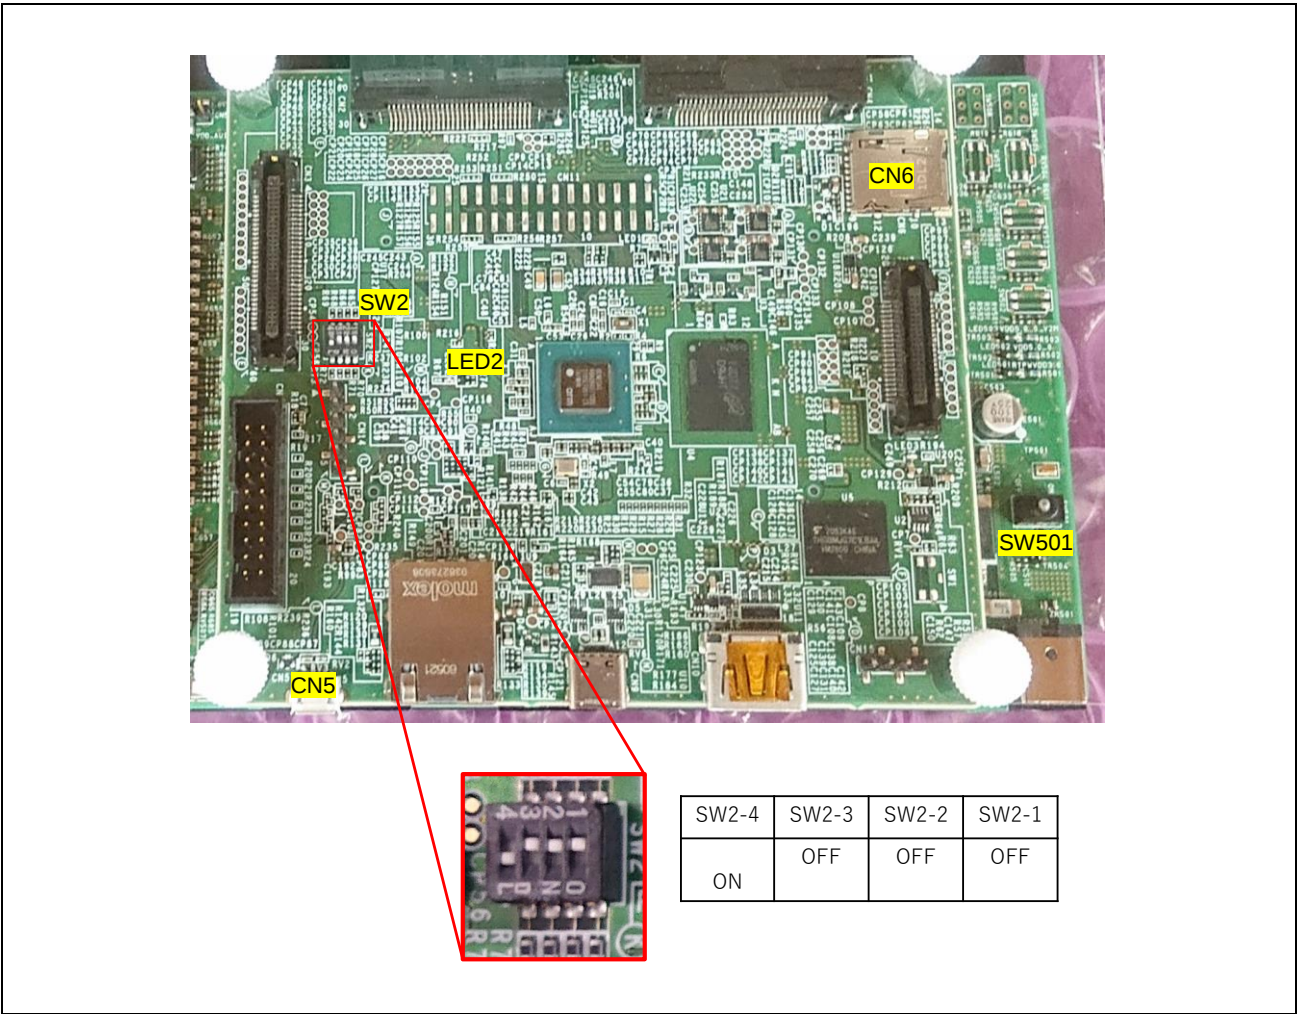

Figure 2.1-1 SW2 Settings
- 1. With the V2MEVK board power turned off, insert the prepared SD card into the V2MEVK's CN6 connector and set SW2 (see **Figure 2.1-1** for the SW2 setting method)